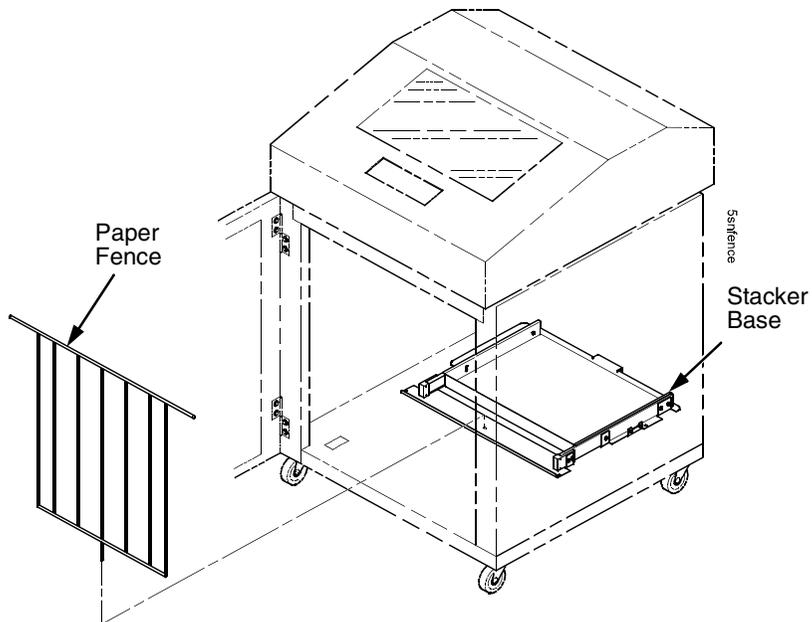

Figure 93. Paper Fence
34. Install the paper fence. (Figure 93.)